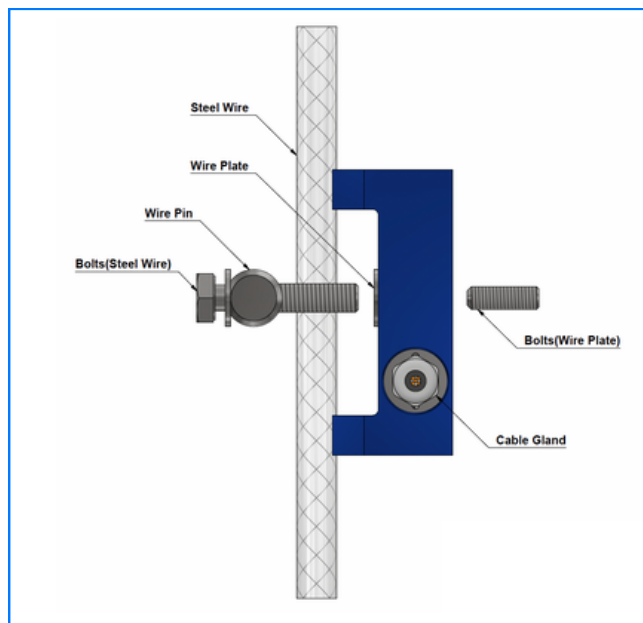

Figure 1
1. The tensiometer should be mounted to the steelwire with the cable gland downwards, as illustrated in figure 1.